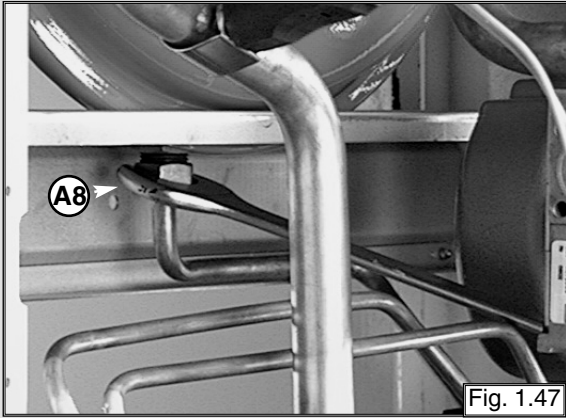

Fig. 1.47
1. Remove nut "A8" away from the expansion vessel (see fig. 1.47);